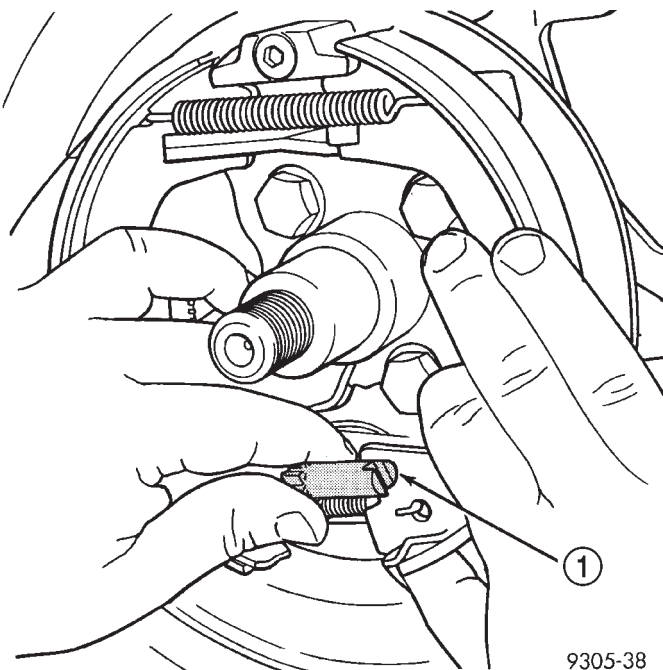

Fig. 151 Park Brake Shoe Adjuster
(7) Turn park brake shoe adjuster wheel until adjuster is at its shortest length.
(8) Remove the park brake shoe adjuster from the park brake shoes (Fig. 151).
- (5) Install the adjuster between the park brake shoes. Adjuster must be installed with the star wheel toward the rear of the vehicle (Fig. 151).